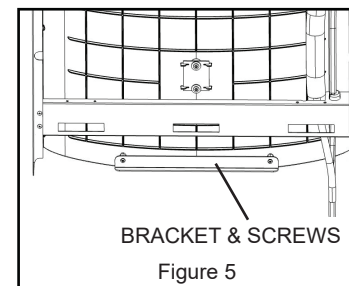

Figure 5
6. Install gasket on bottom of bottle filler tower with gasket support bracket & (2) screws (See Fig 5).